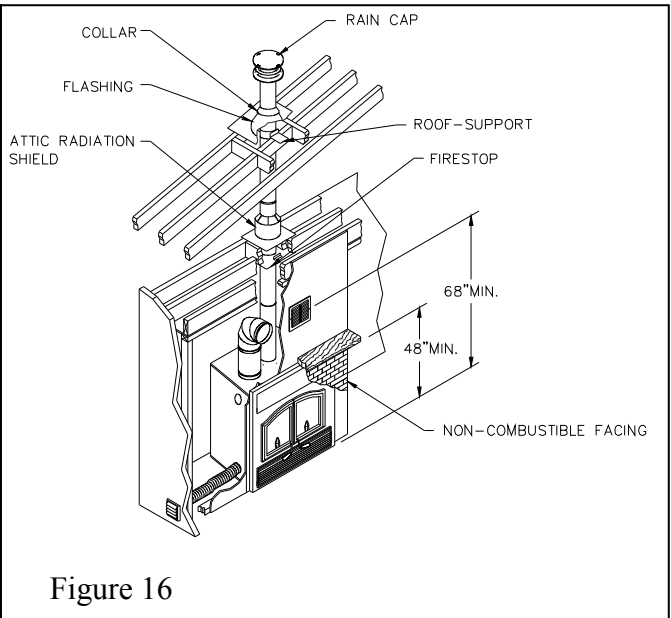

Figure 16
- The fireplace façade can be covered with non-combustible material (fig. 16).